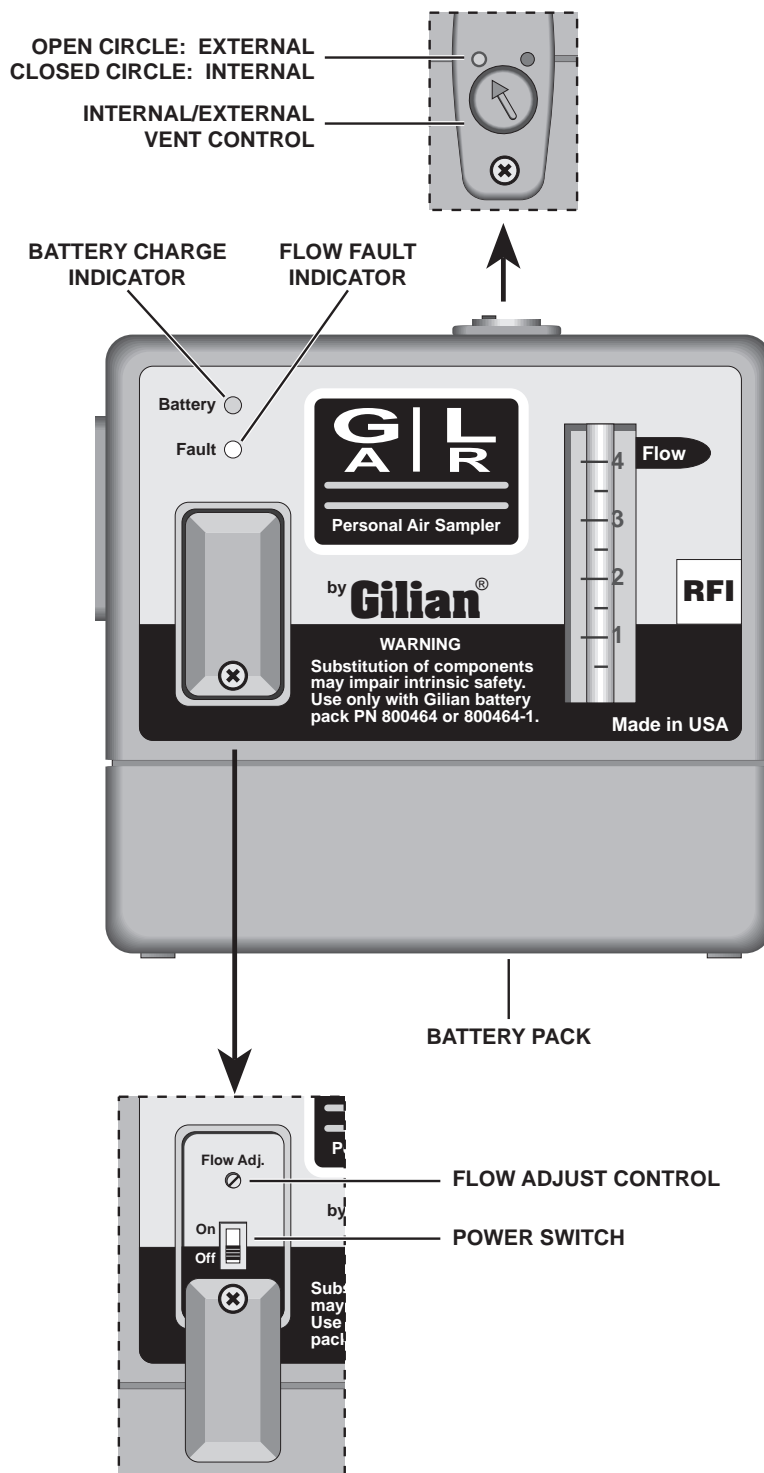

Figure 1.1
2. Using a small Phillips screwdriver, back out the holding screw just enough so the anti tamper cover plate can be rotated 180°. This exposes the On/Off switch and the flow adjust screw (See Figure 1.1).